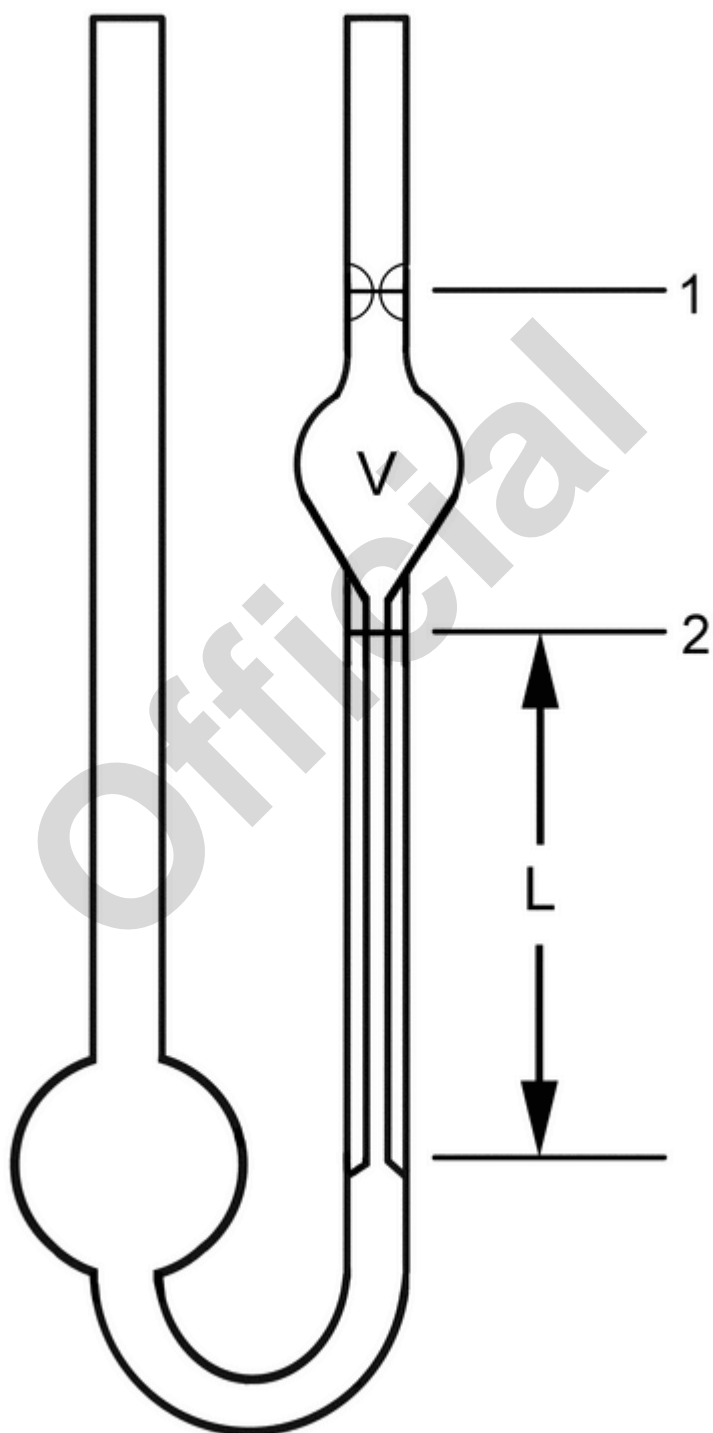

Figure 2. Simple U-tube (or Ostwald-type) capillary viscometer.
**Apparatus:** The determination may be carried out with a simple U-tube capillary viscometer (Figure 2).
Variables and line numbers in *Figure 2* are defined as: